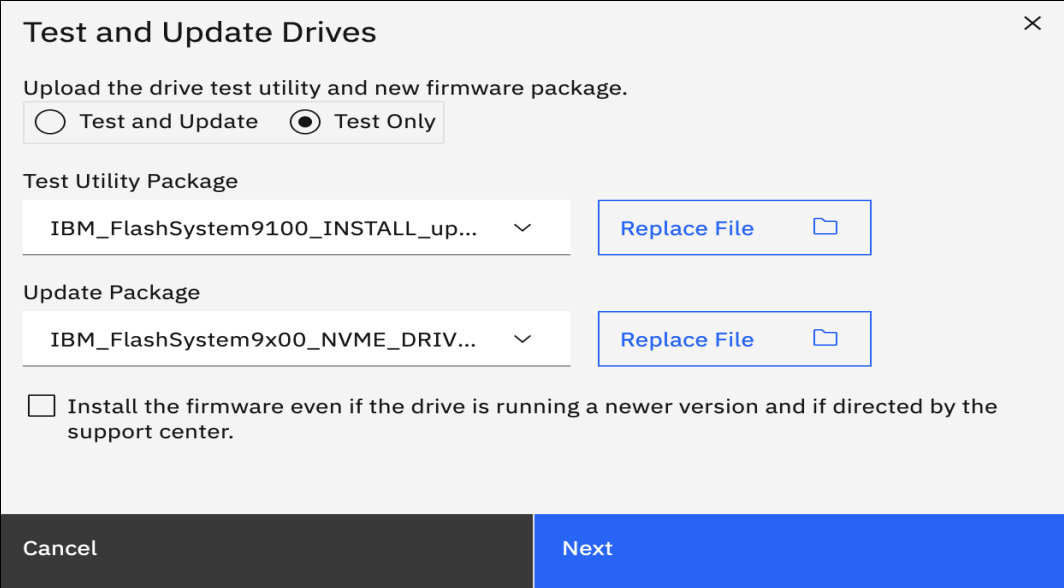

Figure 10-6 Drive firmware upgrade
2. As shown in Figure 10-6, in the Upgrade Package window, browse to the drive firmware package that you downloaded as described in 10.5.2, “Obtaining software packages” on page 443.